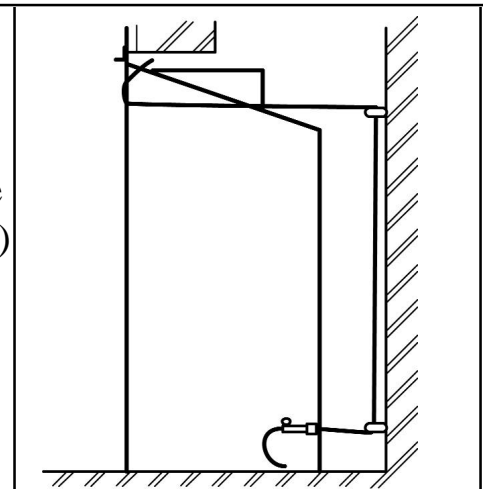

Figure 19. Cable route
6. Thread the cables through the eyebolts. Return the cables through the holes near the bottom of the hotbox back panel (See figure 19) (**For precast or clay block flue systems return the cables through the slotted holes in the side of the hotbox**).